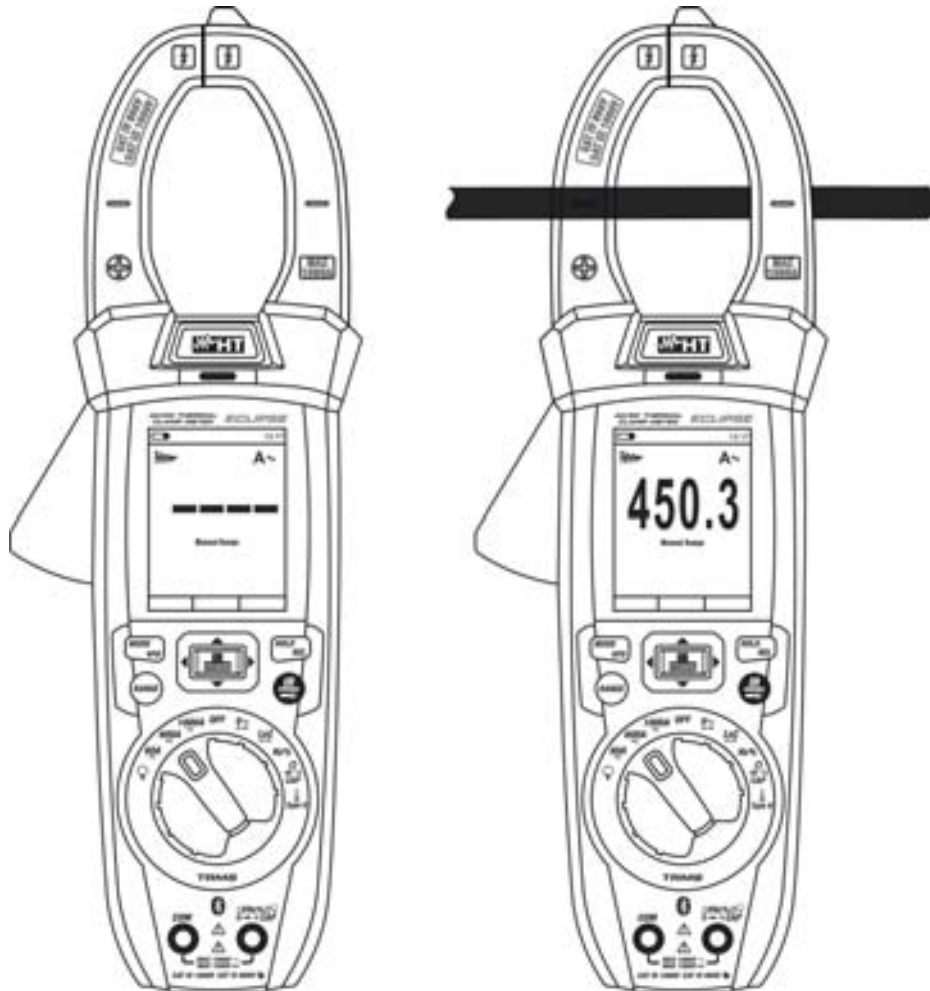

Fig. 33: Use of the instrument for AC Inrush current measurement
3. Long press the key **INRUSH** to activate the “INRUSH” function. The “ \sim ” and “- - -” symbols appears at display (see Fig. 33 – left side)
4. Put the conductor to be tested inside to the center of clamp jaw (see Fig. 33 – right side) in order to perform accurated measurements. Consider the notches on jaws as reference (see Fig. 3)